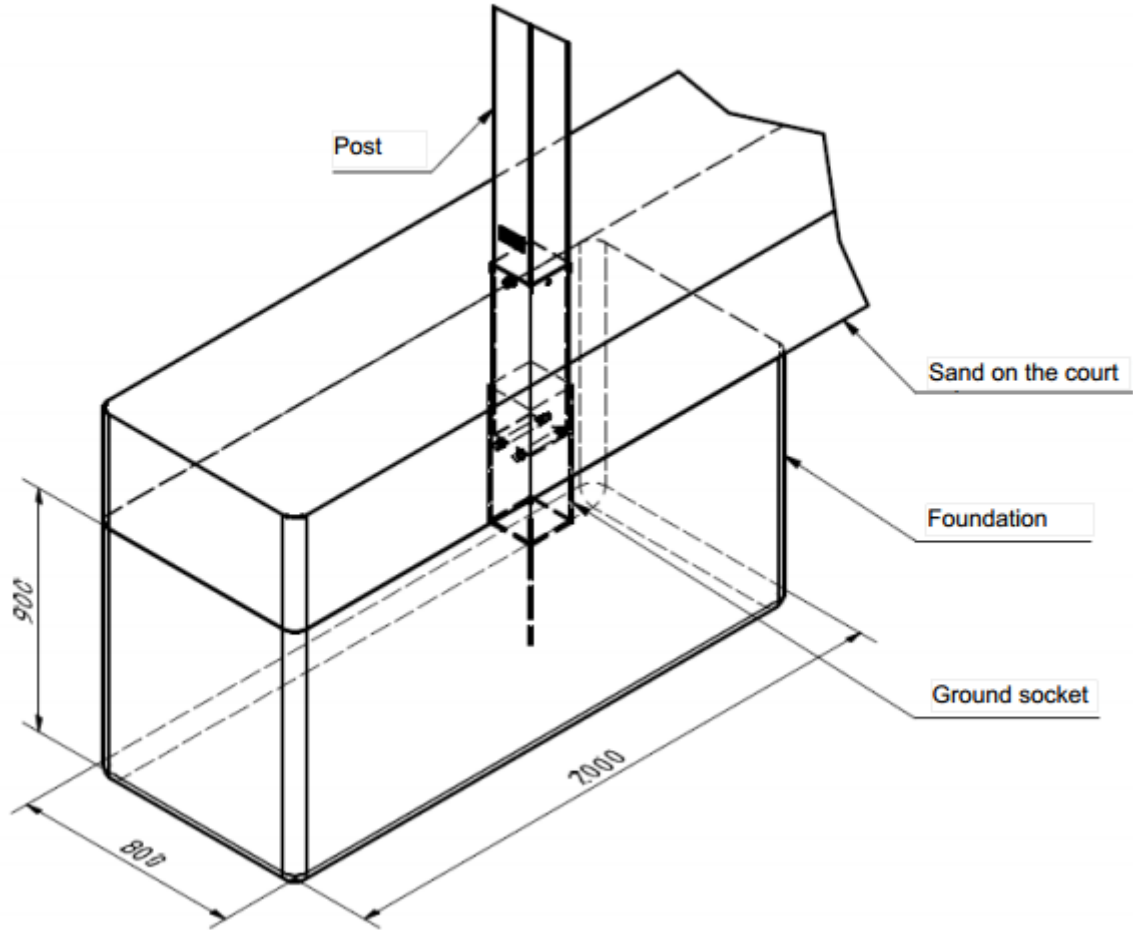

Figure 4: Foundation dimensions required
- 1) The foundation is 2.00 m long, 0.80 m wide and 0.90 m high. See figure 4 for details.
- 7) The section of the ground socket protruding above the foundation should be filled with concrete up to below the safety catch as per figure 4.